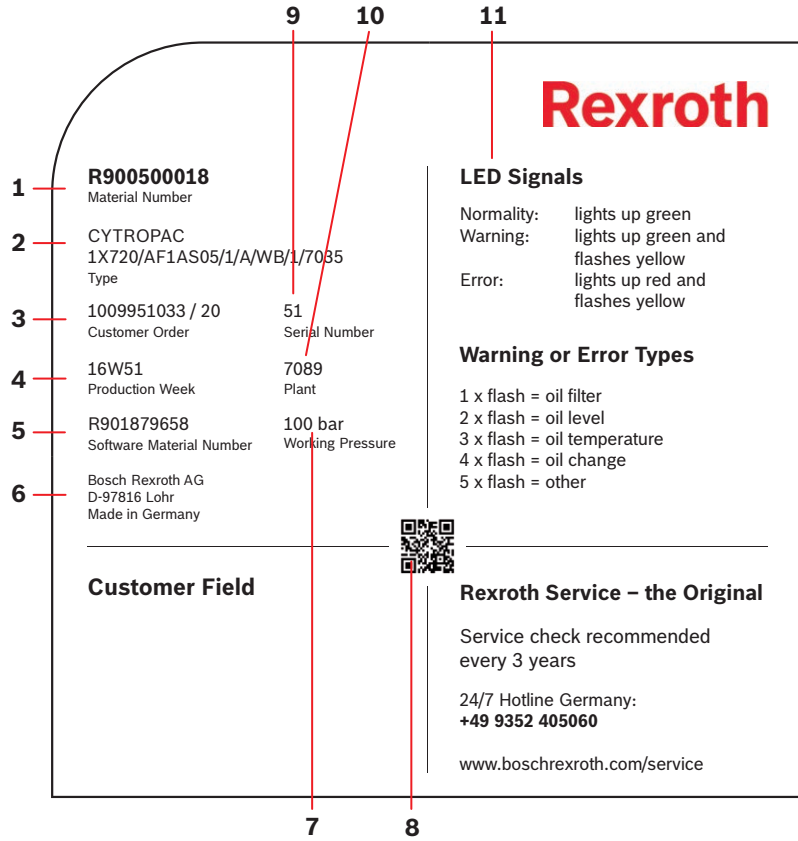

Fig. 3: Example: Name plate
For information on the meaning of the LED signals, refer to fig. 3 "Name plate" and chapter 10.3 "Warning devices".
Hydraulic fluid hose with LED strip for status display (for information on the meaning of the LED signals, refer to fig. 3, pos. 11 and chapter 10.3 "Warning devices", "Advanced" and "Premium" configurations only)